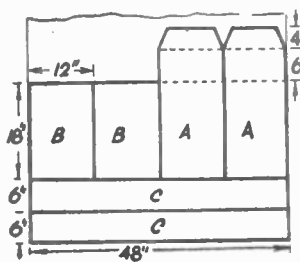

Fig. 1
Spread out the American cloth on a table or flat surface, the wrong side uppermost, and mark out the patterns of the six pieces, as shown in Fig. 1. Cut out the pieces with a pair of sharp scissors. One piece of (A), (B) and (C) will form each pannier.